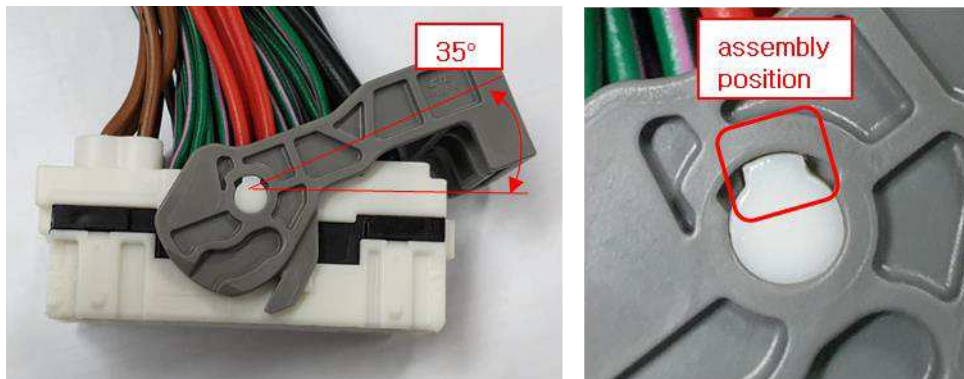

Fig. 19
- (1) After retainer final lock properly completed, insert lever housing to plug houing. Lever assembly position should be matched with plug part as shown in Fig 19.